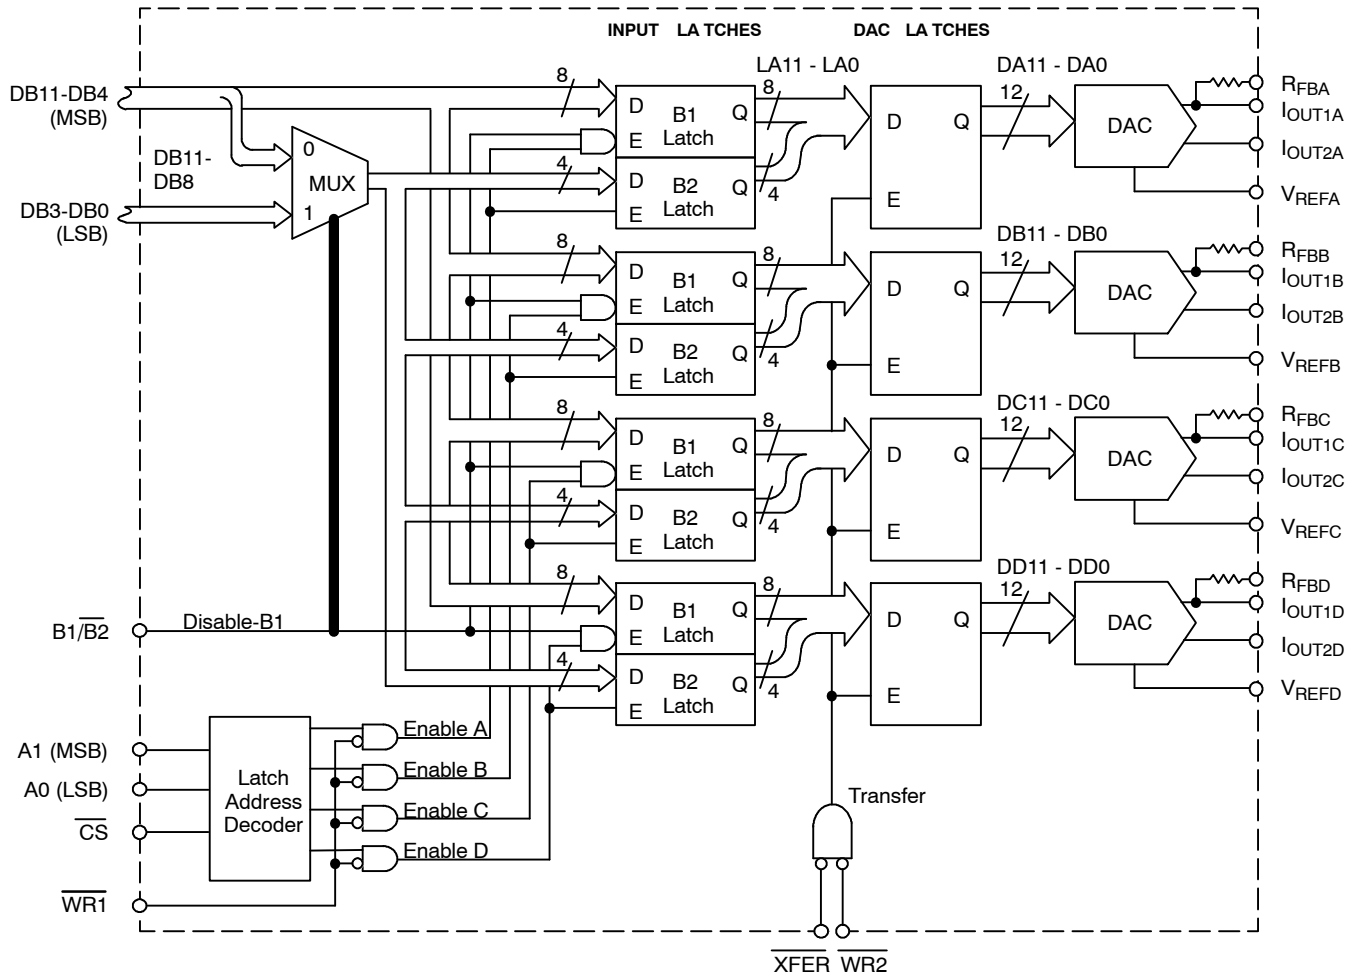
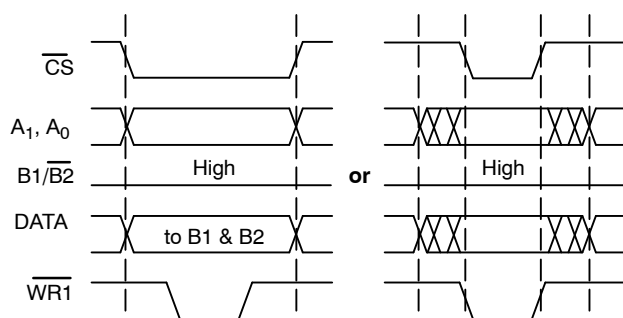
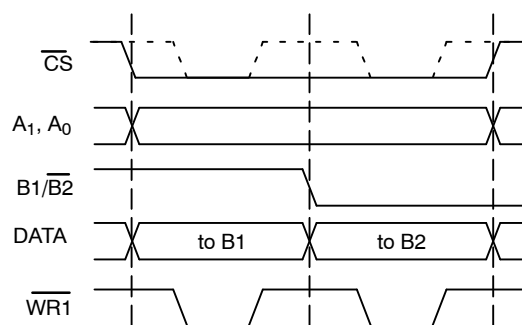

Figure 3. Latches Control Logic
Figure 4. 12 Bit Write Cycle
Figure 5. 8-Bit Double Write Cycle
Figure 3. shows the internal control logic. The logic that controls the writing of the input latches and the one that controls the DAC latches are completely separated. It is easy to understand how the MP7680/80A works by understanding each basic operation.
By keeping $B1/\overline{B2}$ = high, a 12-bit bus has direct access to the 12 bits of the input latches. The condition $\overline{CS} = \overline{WR1} = 0$ loads the values contained in the data bus DB11-DB0 into the input latch addresses by A_1, A_0 (Figure 4., Table 1.).
(Figure 5.) During the second cycle the condition $B1/\overline{B2}$ = low muxes DB11-DB8 to the B2 latches (Figure 3.).
- 1) Timing diagrams show the inputs $\overline{CS}$, A_1 , A_0 , DB11-DB0 to be stable during the entire writing cycle. In reality all the above signals can change (Figure 4.) as long as they meet the timing conditions specified in the Electrical Characteristic Table.
- 2) Only 16-bit bus cycles are shown in the next few examples of interface timing. It is possible to generate an 8-bit interface timing by replacing a single 12-bit write cycle (Figure 4.) with a double 8-bit write cycles (Figure 5.) 8-bit applications should ground inputs DB3-DB0.